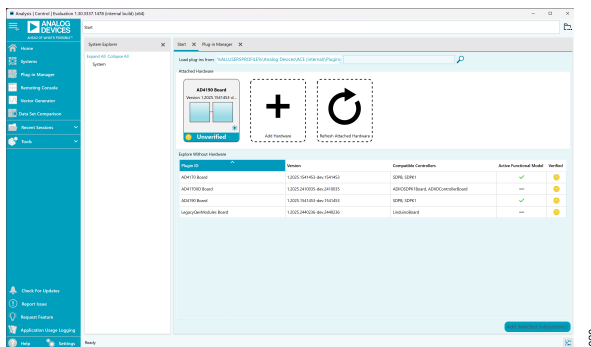

Figure 20. AD4195-4 Evaluation Board Connected
3. Double-click the **AD4195 Board** icon to appear the **AD4195 Board** view window, as shown in Figure 20.